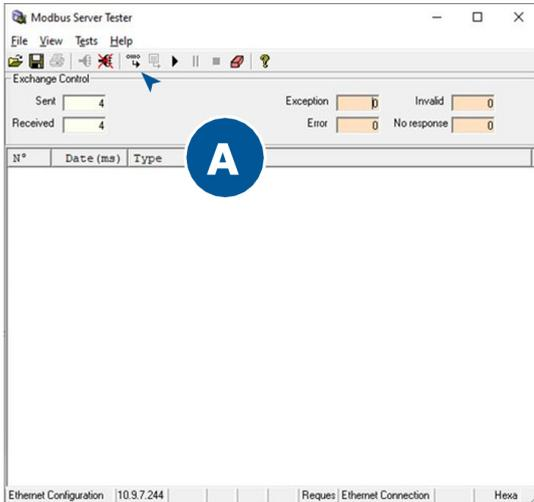

Figure 36.1. Send Frame icon.
- To begin, click on the Send Frame icon **(A)** in top toolbar. See Figure 36.1.
- Click the Send Frame icon. See Figure 36.1.